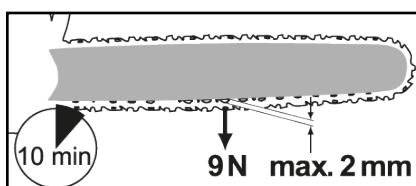

Fig.1
- Loosen the Guide Bar Cover Lock Screw(12) on the Guide Bar Cover. It is not necessary to remove the Guide Bar Cover to adjust chain tension.
- When pulling on the saw chain with 9 N (approx. 1 kg) of force, the saw chain and blade bar should not be separated by a distance of more than 2 mm(0.078")(Fig.1).